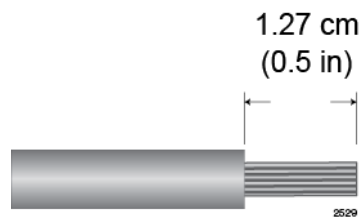

Figure 135. Stripping the Power Wires
1. Prepare adequate lengths of two stranded 8 AWG power wires by stripping them as shown in Figure 135.